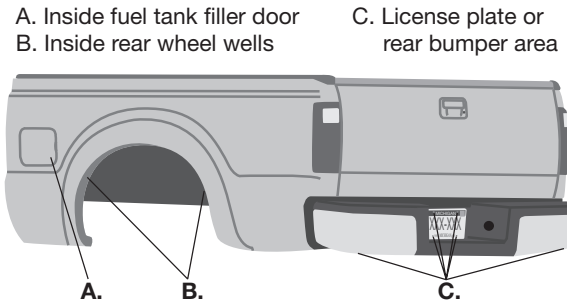

fig. 9
3. Select a location for the Schrader valve, ensuring that the valve will be protected and accessible with an air hose (Fig. 9). Determine and cut adequate length of air line to reach from the tee to the Schrader valve or from the air springs to the valve if using a dual-path installation.